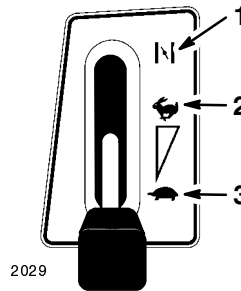

Figure 10
5. Move the throttle lever to “CHOKE” (Fig. 10).
7. After the engine starts, slowly move the throttle lever to “FAST” (Fig. 10). If the engine stalls or hesitates, move the throttle lever back to “CHOKE” for a few seconds. Then move the throttle lever to “FAST.” Repeat this as required.
1. Move the throttle lever to “SLOW” (Fig. 10).